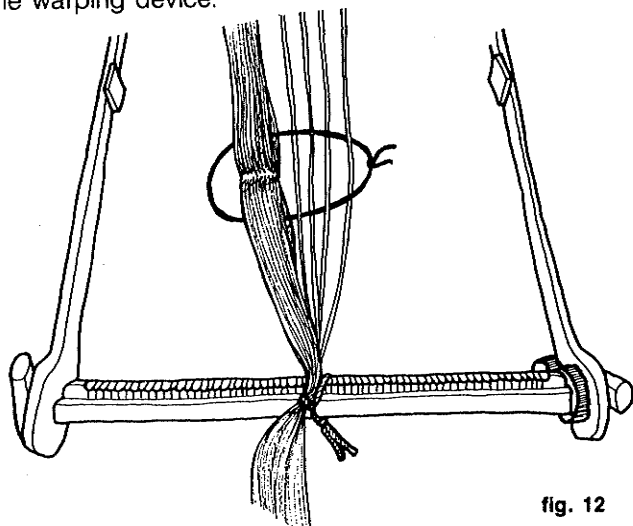

fig. 12
2. Make a "choke" tie with 18" of cord 12 inches beyond the cross. This should be tied very tightly (fig. 12)
4. Use the long ends of the "choke" tie to secure the warp to the cloth beam of the loom (fig. 12). Turn the loom so the warp beam faces you.